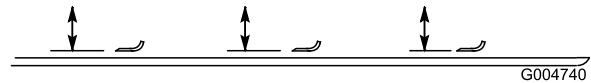

Figure 95
2. Rotate the blade until the ends face forward and backward (Figure 95). Measure from the inside of the cutting unit to the cutting edge at the front of the blade. Record this dimension.